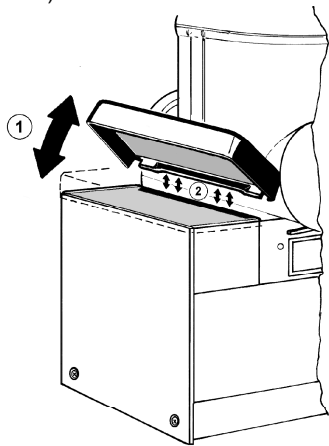

figure 6
(see figure 6).
- 8 - On FBM 1P model install the lateral tray by reversing the disassembly steps (see figure 6).